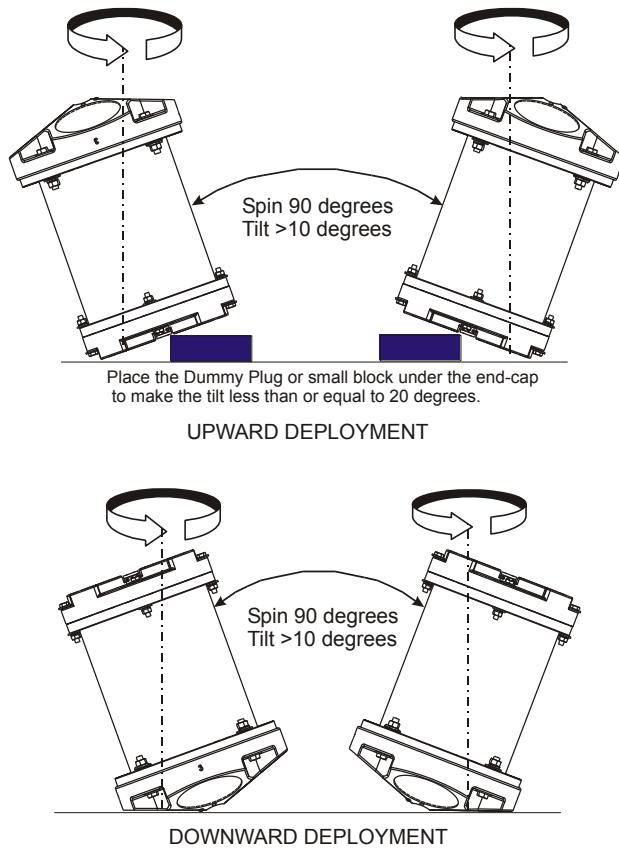

Figure 25. Compass Calibration
- e. Tilt the ADCP (see Figure 25). Tilt an upward-looking WorkHorse with a block under one side of the end-cap. A 35-mm block will give you an 11-degree tilt. Check the on-screen instructions to see if the orientation is OK. Adjust as necessary.
- g. The second rotation requires the ADCP to be tilted 15 degrees in another direction than from the first rotation (see Figure 25). Follow the on-screen instructions to orient the ADCP correctly. When prompted, rotate the ADCP slowly 360 degrees (approximately 5 degrees per second).